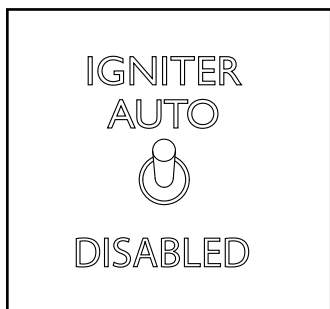
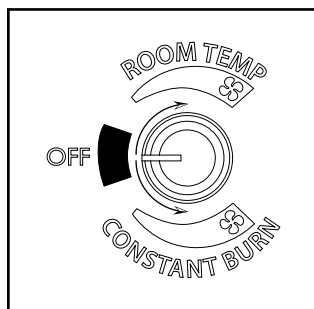

Figure 4.4
Figure 4.5
4. Flip toggle switch to desired mode “auto or manual”. Figure 4.4. Set Feed Limit knob to desired setting and turn mode dial to “Room Temp” or “Stove Temp” Figure 4.5. **Note:** Feed rate of #4 is a good starting point. Adjustments may need to be made depending on fuel quality and/or heat output desired.